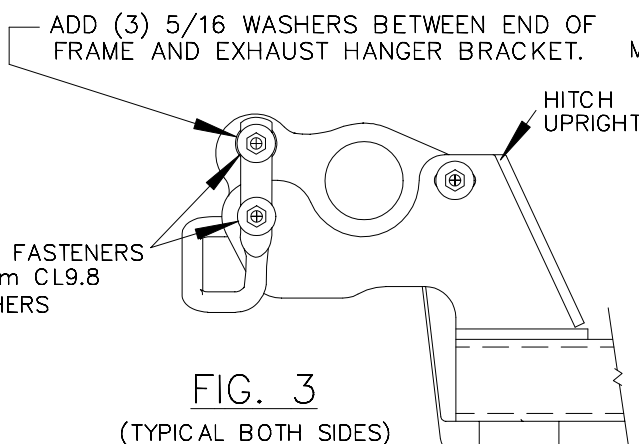

FIG. 3
5. USE THREE (3) 5/16 FLAT WASHERS PROVIDED TO SHIM SPACE BETWEEN EXHAUST BRACKET AND THE UPPER OUTBOARD ATTACHMENT FOR E/A UNIT (SEE FIG. 3). USE FASTENERS PROVIDED TO ATTACH EXHAUST HANGER BRACKET. DEFORMATION OF SHEET METAL FLANGES ON E/A MOUNTING SURFACES IS PERMISSIBLE WHEN FASTENERS ARE TIGHTENED. OPTIONAL: ON LATE MODELS WITH DUAL EXHAUST, REPOSITION THE MUFFLER HANGER BRACKET FORWARD OF THE E/A UNIT AS SHOWN IN FIGURE 4. INSTALL FASTENERS AS SHOWN IN FIGURE 1. **NOTE:** REMOVE RUBBER HANGER FROM BRACKET (USE LIQUID HAND SOAP) TO ALLOW ACCESS FOR INSTALLING M8 BOLTS.